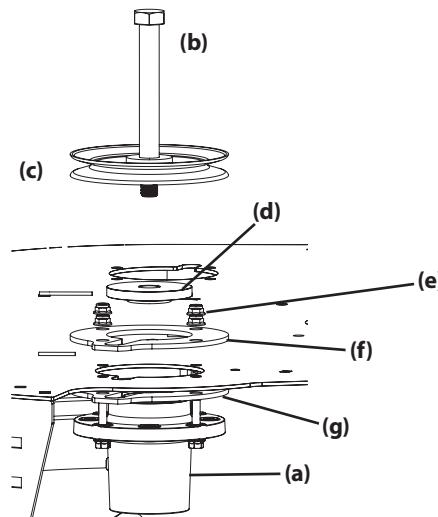

Figure 44
6. Remove the hex bolt (b), pulley (c) and spacer (d) spacer from the spindle assembly (a). See Figure 44.
7. Remove the four flange lock nuts securing the (e) upper support plate (f), lower support plate (g) and spindle assembly (a) to the deck. See Figure 44.
12. Reverse the process to install the spindle assembly. When installing the new spindle assembly be sure to install the hardware exactly as shown in Figure 44 and Figure 44.. Torque the hex flange bolts to 250 ft-lbs. (338.95 N-m) and the flange lock nuts to 21-32 ft-lbs (28.47-43.39 N-m).